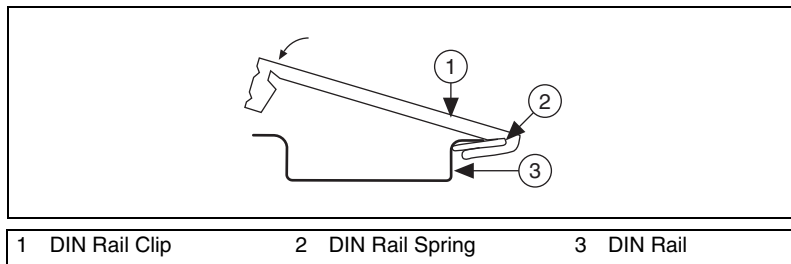

Figure 1-5. DIN Rail Clip Parts Locator Diagram
2. Clip the bracket onto the DIN rail as shown in Figure 1-5.